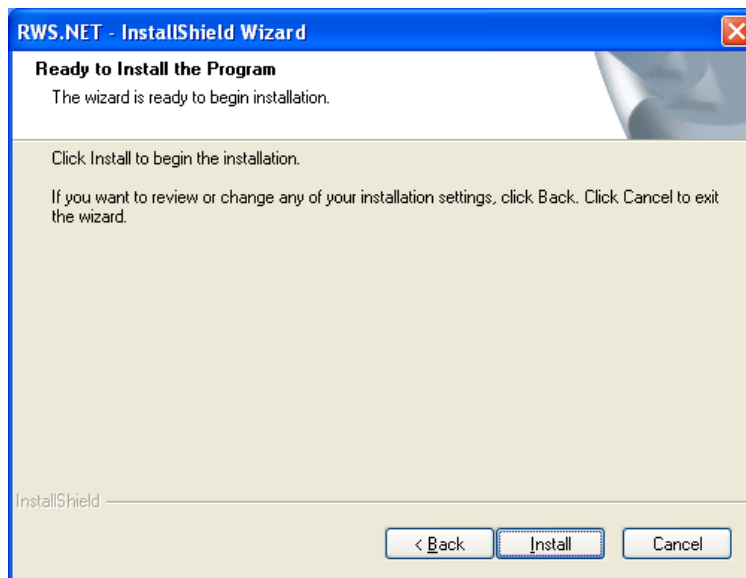

Figure B-10: Ready to Install the Program Window
- Click **Next** to display the *Ready to Install the Program* window (Figure B-10).